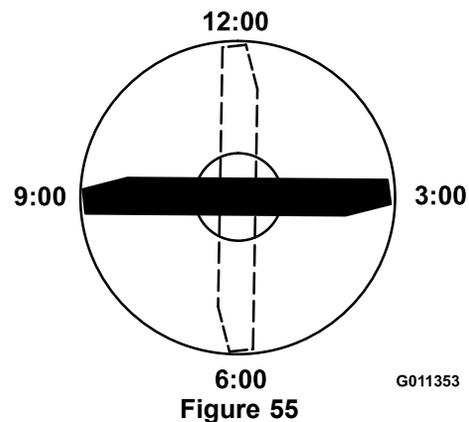

Figure 55
4. Position the cutting edge of the marked end of the blade at 12 o'clock (straight ahead in the direction of mowing) (Figure 55) and measure height from table to cutting edge of blade.
5. Rotate the marked end of the blade to the 3 and 9 o'clock positions (Figure 55) and measure the heights.